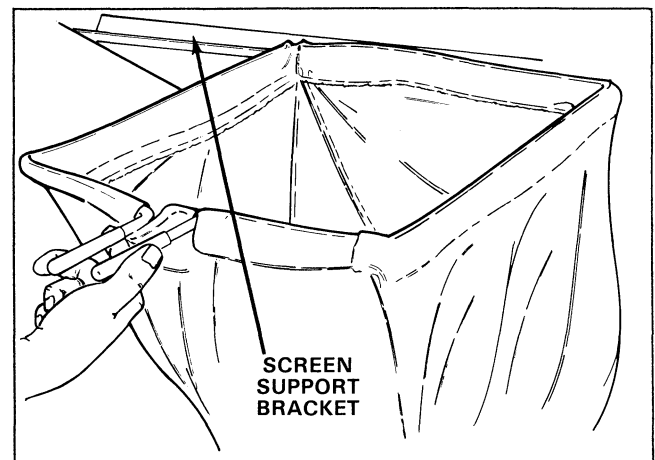

Figure 5
1. Slide grass bag under bag frame cover, positioning front edge of bag rod into screen support bracket on bag frame (Fig.5).